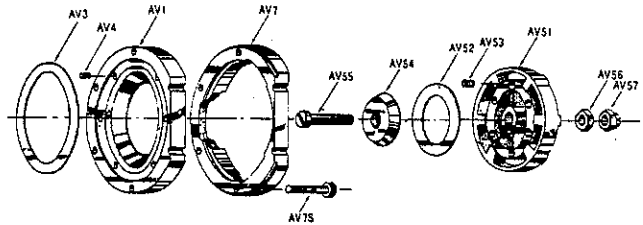

Fig. 54 Discharge and suction valve assemblies. (Model A)
1.8. Suction valve (assembly) (refer Fig. 54).